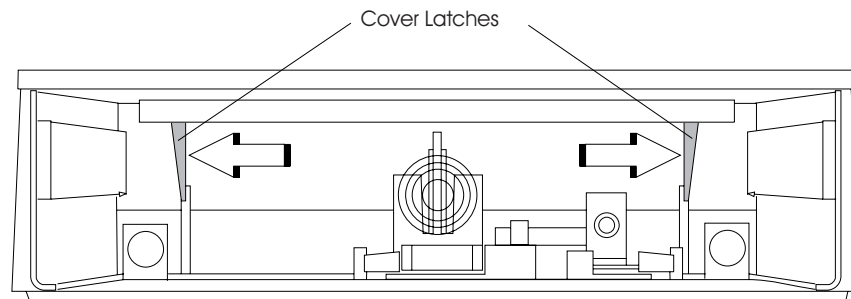

Figure 94. Removing and replacing the top cover
5. To separate the top cover from the base, reach in from the front and push the cover latches outward while pushing them to the rear. The cover slides off toward the rear (see Figure 94).